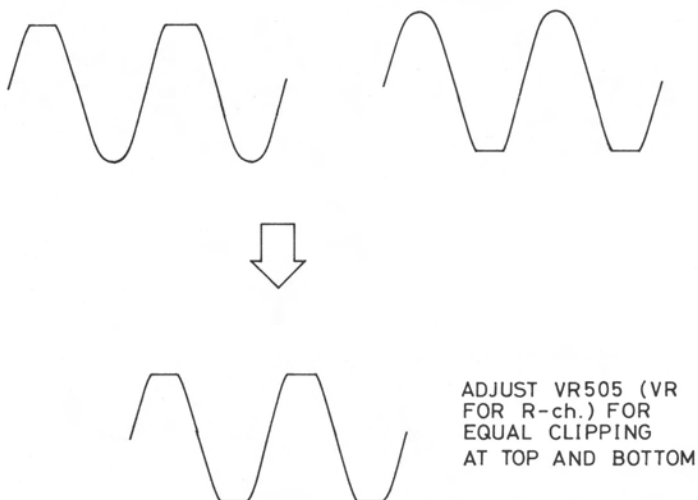

Fig. 1 DC Balance Adjustment Waveform
5. Connect AC power cord and rotate volume control to clockwise position (full volume). Increase generator output until sine wave on scope just starts clipping. Adjust DC Balance potentiometer VR505 (on Pre, Main Amp PCB) for equal clipping on the positive and negative half cycles of the signal. See Fig. 1.